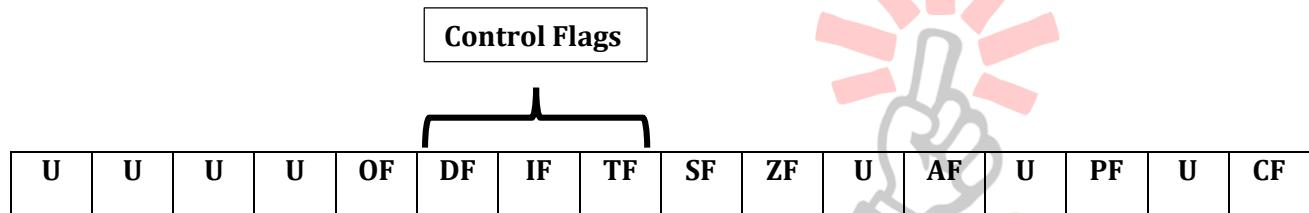

Figure 1.8: 8086 Flag Register Format.
- Figure 1.8 shows the 8086 flag register format.